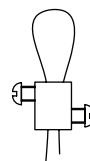

Fig. 2
3. Use the screwdriver (D) to loosen the set screw (E). Adjust the power cord (F) to the desired length. Secure the set screw to set.
4. Loosen the screws on the safety cable coupling (G) and undo the loop. Pass the safety cable through a hole on the mounting plate (H) and insert the end back through the coupling to form a loop. Tighten the coupling screws to secure the safety cable. (Fig. 2).
5. Attach the mounting plate (H) to the outlet box (A), secure with outlet box screws (J).
6. Reserve LED driver (K), extra cord (F), and cable (B) in the canopy (L).
- a. Connect the LED driver's (K) live wire (black) to the live outlet box wire.
- b. Connect the LED driver's (K) neutral wire (white) to the neutral outlet box wire.
- d. Carefully place connections in outlet box (A).
8. Install the canopy (L) to the mounting plate (H) using the mounting screws (M).